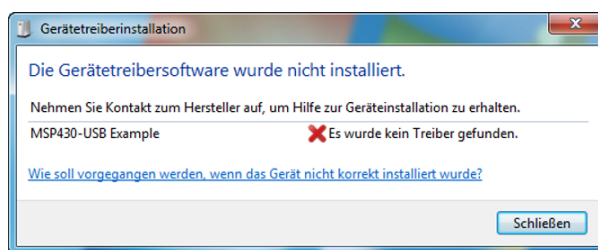

Figure 23. Driver Not Available
4. The following procedure applies when using a Windows® operating system. After connecting to the PC, the TIDA-00662 should be recognized automatically as a USB device called *MSP430-USB Example*, without a valid driver (see Figure 23).